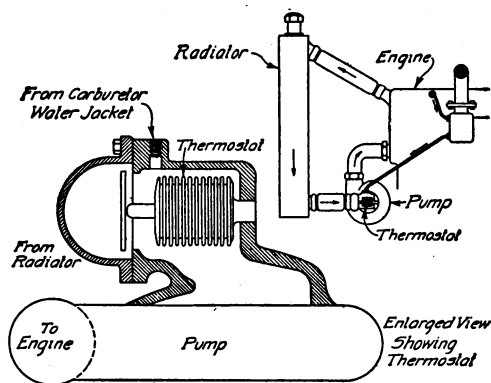

Fig. 209. Thermostatic Device in Latest Cadillac Water-Cooling System to Preserve Equilibrium and Even Temperature
*Cadillac System.* An entirely new idea in the control of the temperature of the cooling water is that used on the new eight-cylinder Cadillac motors. Here, each block of four cylinders has its own circulating system, with pump and piping, entirely distinct from the other. In each one a thermostat, like that shown in Fig. 209, is located on top of the pump housing. This controls the movement of a valve, which, when shut off, prevents the flow of water to the radiator, that is, when the temperature of the water falls below a
each end so that the thrust of each one balances the other. In the Cadillac, the two cylinder groups are separate, each having all the units shown in Fig. 209 except the radiator. In both the Cadillac and Packard systems, the thermostat is placed at the bottom of the system. It has been advocated by engineers for other companies that this would do the most good if placed at the top of the system.